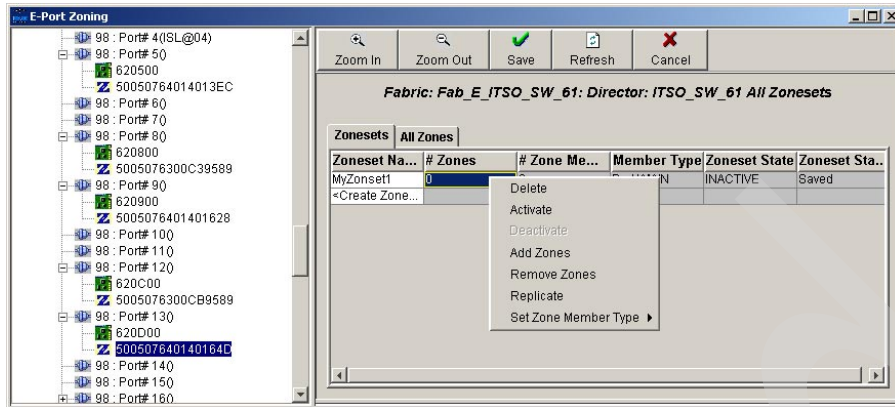

Figure 5-24 Add Zones menu
3. Right-click the Zoneset and select **Add Zones** from the menu (see Figure 5-24).